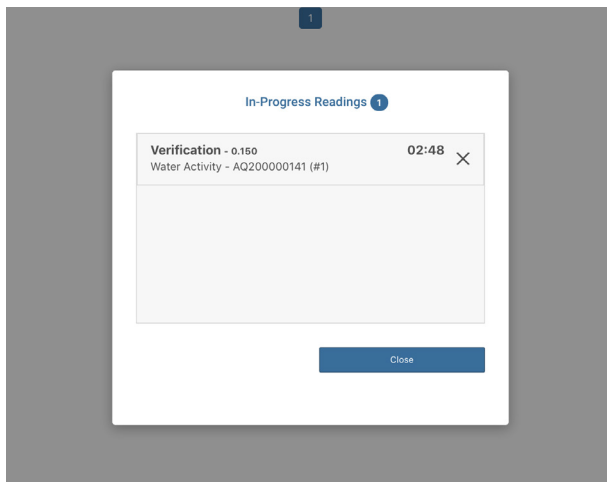

Figure 83 In-Progress Reading screen
12. Select the **In-Process Readings** button at the bottom of the Take a Reading window to see the progress of readings (Figure 83).